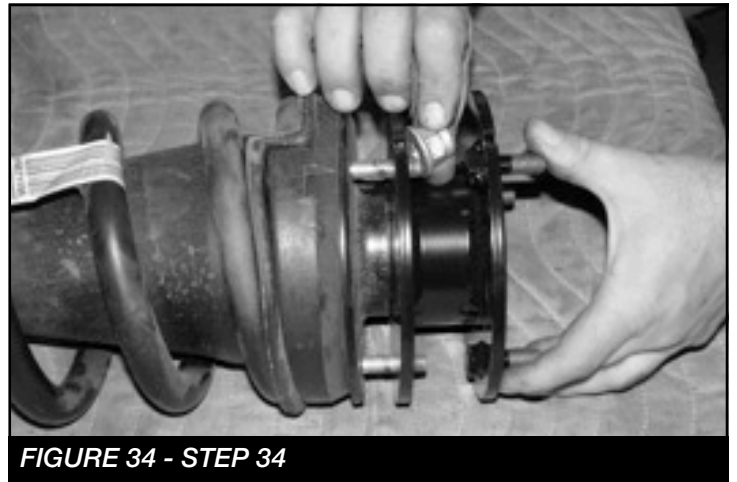

FIGURE 34 - STEP 34
34. Install the FT20560BK coil spacer using the factory nuts and torque to 30 ft-lbs. **SEE FIGURE 34. NOTE: If installing on a vehicle equipped with Magna-Ride suspension you will need to route the wire through the new Fabtech spacer.**